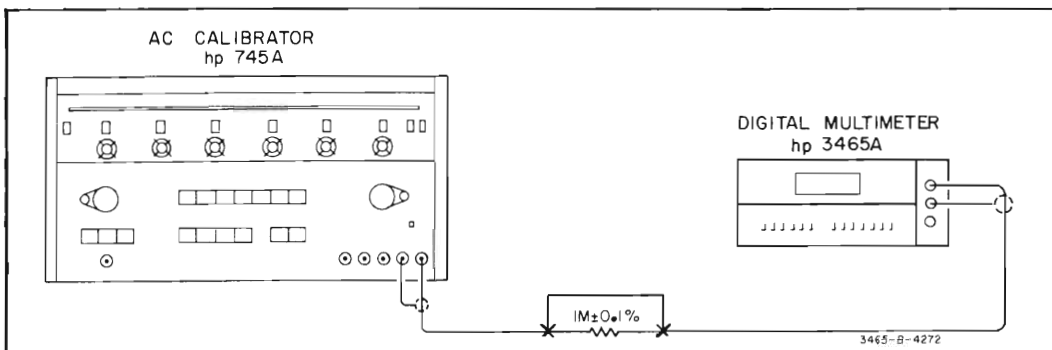

Figure 5-7. AC Voltmeter Input Impedance Test.
- a. Connect the AC Calibrator and a 1 MΩ resistor as shown in Figure 5-7. Connect a jumper across the resistor.